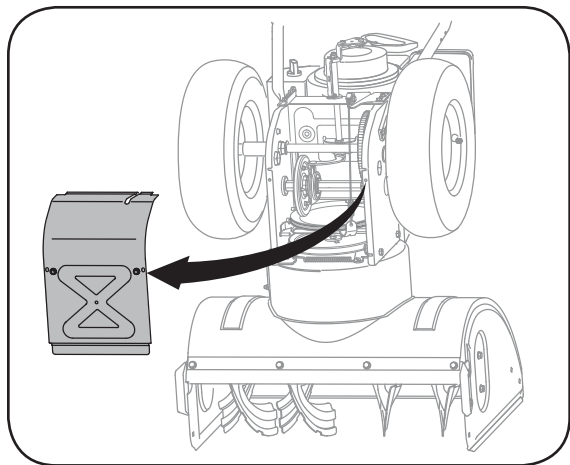

Figure 6-5
2. Carefully pivot the snow thrower up and forward so that it rests on the auger housing. Remove the frame cover from the underside of the snow thrower by removing self-tapping screws which secure it. See Figure 6-5.
2. Carefully pivot the snow thrower up and forward so that it rests on the auger housing. See Figure 6-5.
3. a. Remove the frame cover from the underside of the snow thrower by removing four self-tapping screws which secure it. See Figure 6-5.